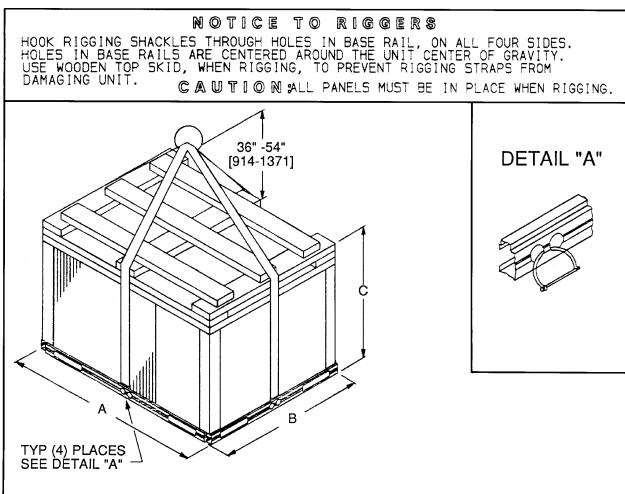

Fig. 3 — Rigging Label
2. See Fig. 3 for additional information.
RIGGING — These units are designed for overhead rigging. Refer to rigging label for preferred rigging method. Spreader bars are not required if top crating is left on unit. All panels must be in place when rigging. (See Fig. 3.) As further protection for coil faces, plywood sheets may be placed against sides of unit, behind cables. Run cables to a central suspension point so that angle from the horizontal is not less than 45 degrees. Raise and set unit down carefully.